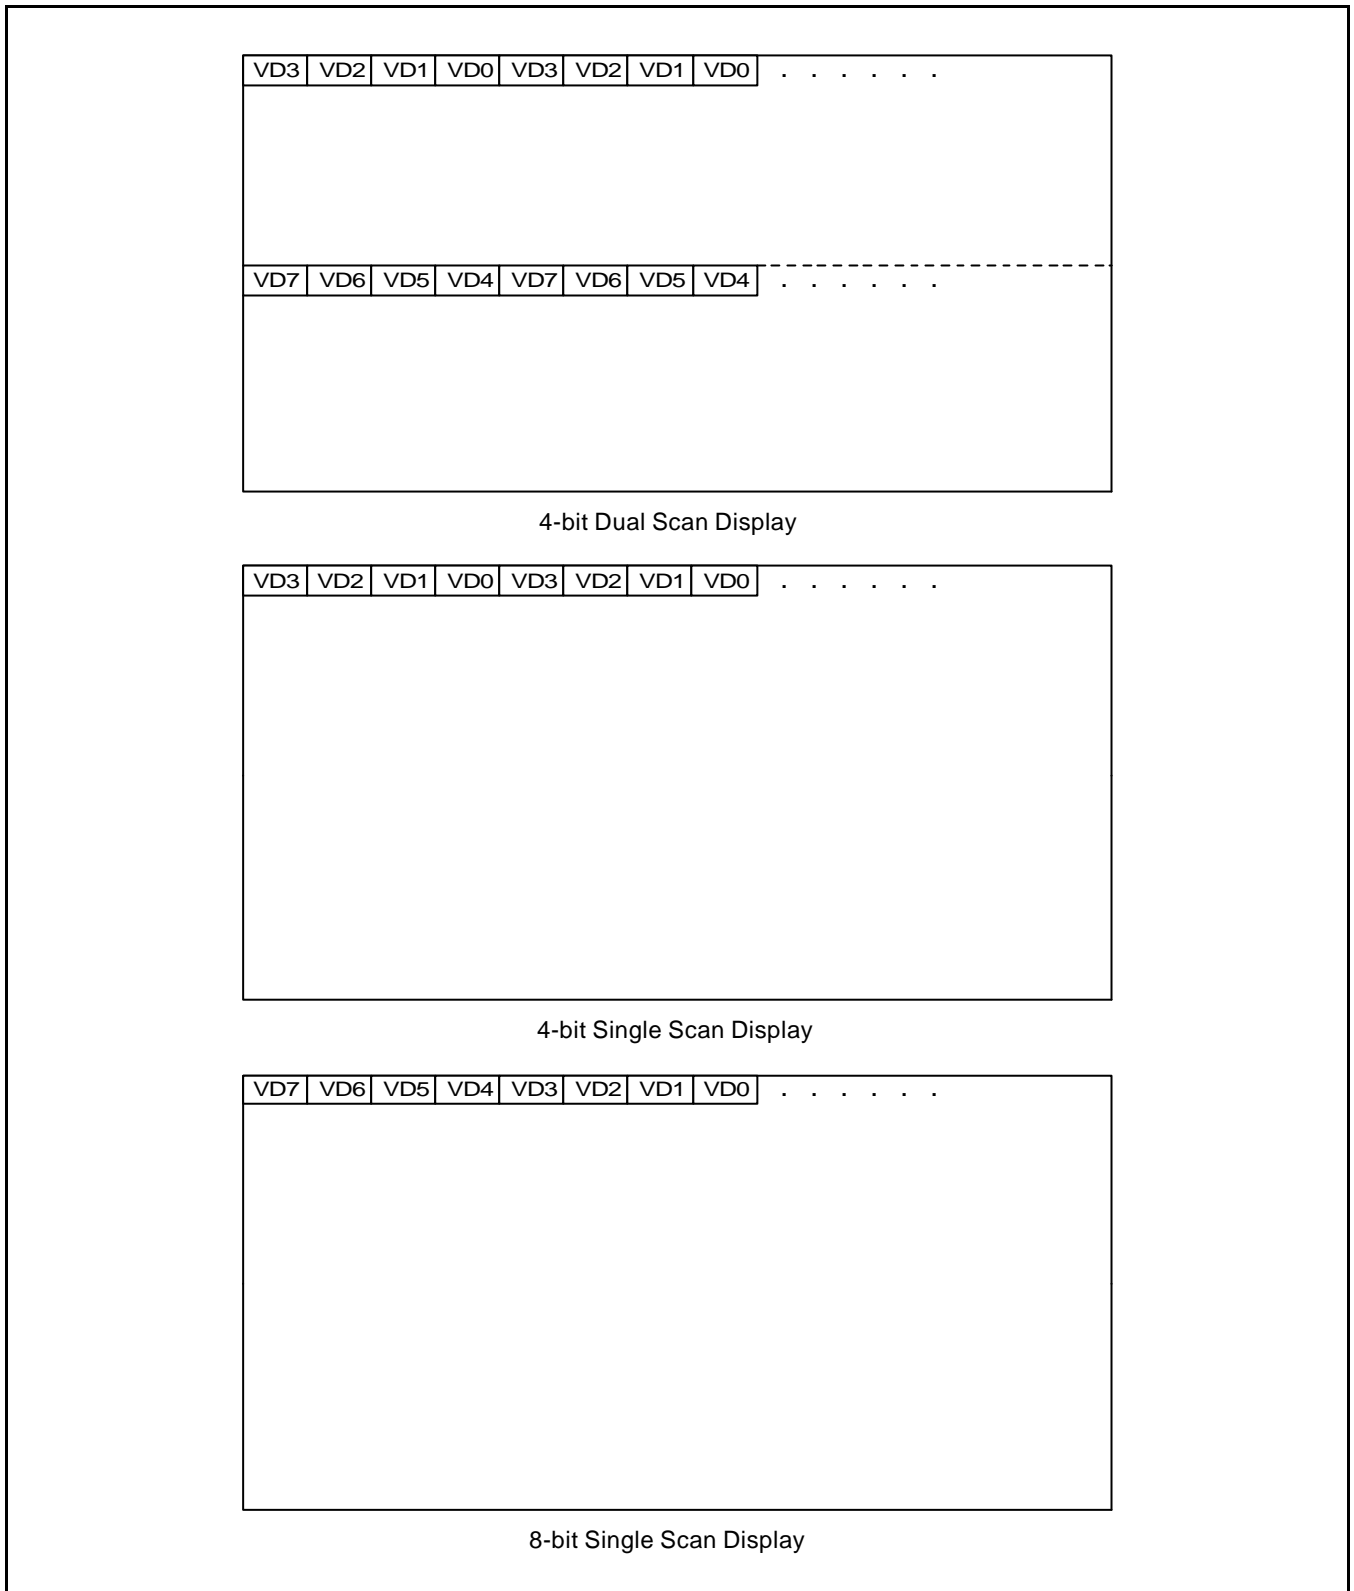

Figure 12-4. Monochrome Display Types
- VD[3:0]:** These are LCD pixel data output ports. For a 4-bit or 8-bit single scan display, these 4-bit data are used as the display data as shown in Fig. 12-4. In case of 4-bit dual scan display, these 4-bit plays into its role of the upper display data as shown in Fig. 12-4.
- VD[7:4]:** These are LCD pixel data output ports. For a 8-bit single scan display, these data are used as upper display data as shown in Fig. 12-4. For a 4-bit dual scan display, these data are used as lower display data as shown in Fig. 12-4.
The LCD controller supports 3 types of LCD drivers: 4-bit dual scan, 4-bit single scan, and 8-bit single scan display mode. Figure 12-4 shows these 3 different display types for monochrome displays, and figure 12-5 shows these 3 different display types for color displays.
A 4-bit dual scan display uses 8 parallel data lines to shift data to both the upper and lower halves of the display at the same time. The 4 bits of data in the 8 parallel data lines are shifted to the upper half and 4 bits of data is shifted to the lower half, as shown in figure 12-4. The end of frame is reached when each half of the display has been shifted and transferred. The 8 pins (VD[7:0]) for the LCD output from the LCD controller can be directly connected to the LCD driver.